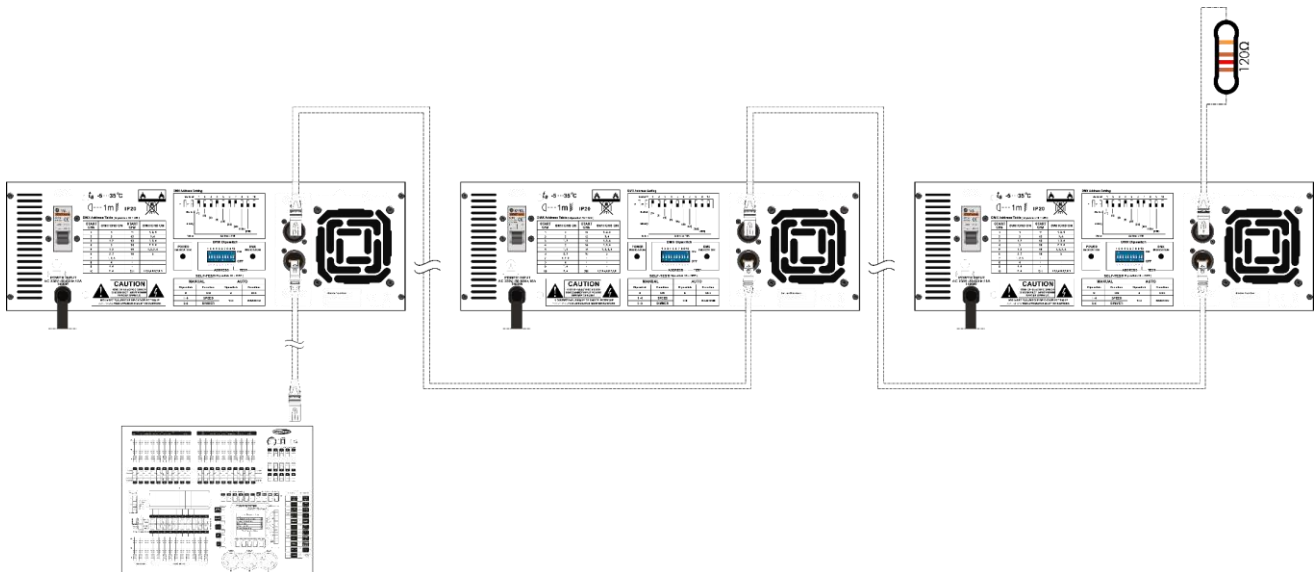

Fig. 08
- 04) Link the units as shown in Fig. 08. Connect the first unit's DMX "out" socket with the second unit's "in" socket, using a DMX-signal cable. Repeat this process to link the second and third unit.